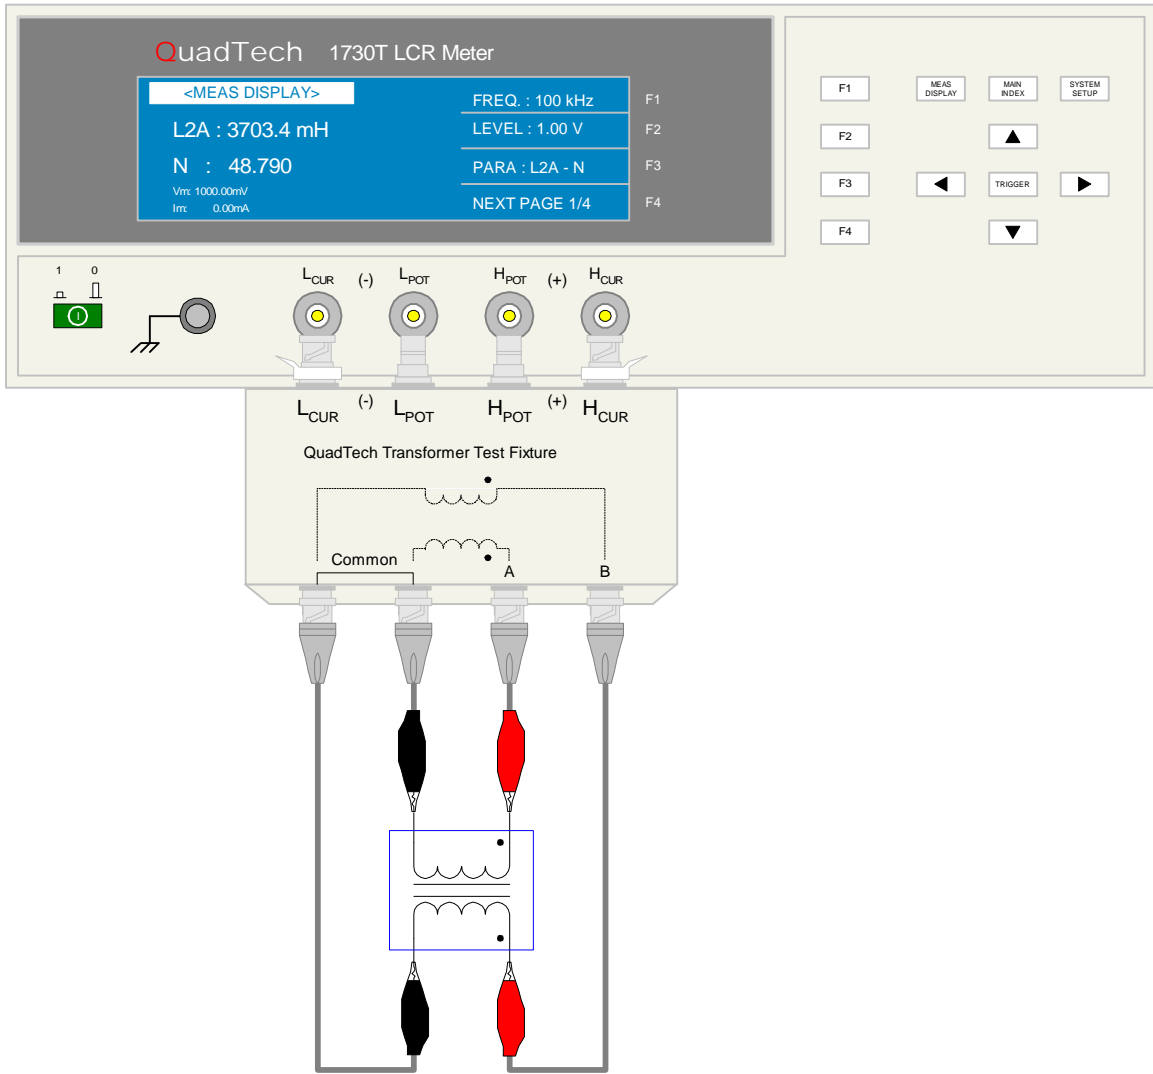

Figure 2-15: Transformer Test Fixture
Figure 2-15 illustrates the 630166 Transformer Test Fixture connected to the 1730T LCR Meter. The 1730T instrument measures turns ratio (N), turns ratio inverse (1/N), mutual inductance (M) and DC resistance (R2) of transformers and wound components. Refer to paragraph 2.4.3, Parameter, for programming instructions for N, 1/N, M and R2.